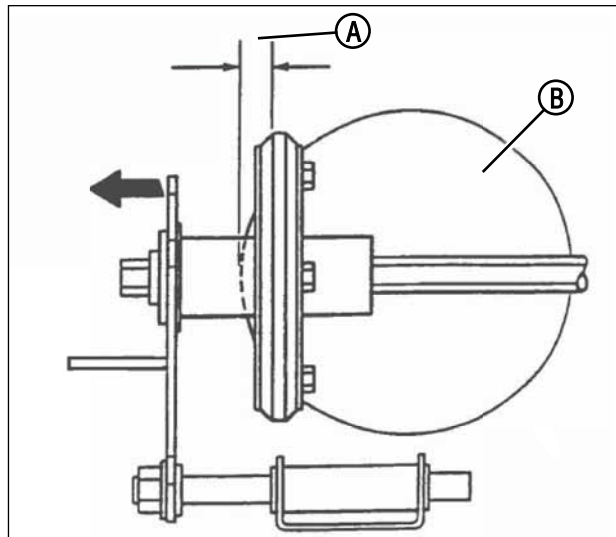

Figure 27: Proper driven disc adjustment
- Slide the driven disc assembly over to 1/8" (A, Figure 27) from the outside edge of the drive disc (B).